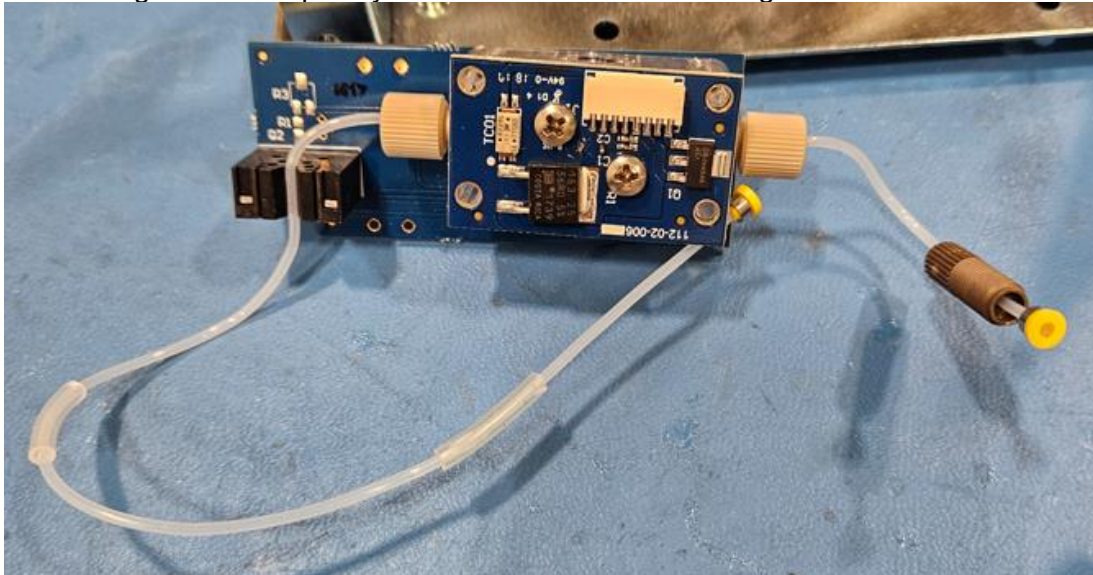

Figure 21
- 3.7. Reading Cell is completely removed from the device. Figure 21.